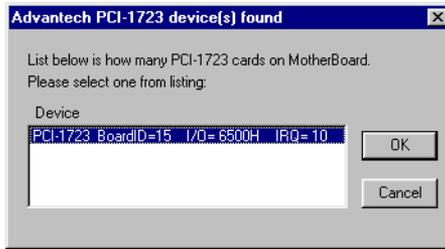
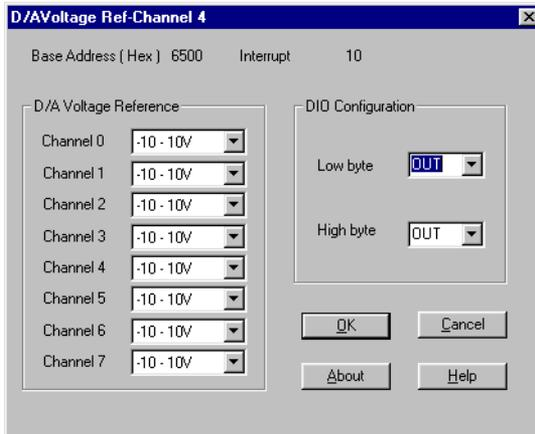

Figure 2.5: "Device(s) Found" Dialog Box
Figure 2.6: The Device Setting dialog box
3. Scroll down the List of Devices box to find the device that you wish to install, then click the Add... button to evoke the Device(s) found dialog box such as one shown in Fig. 2-5. The Device(s) found dialog box lists all the installed devices on your system. Select the device you want to configure from the list box and press the OK button. After you have clicked OK, you will see a Device Setting dialog box such as the one in Fig. 2-6.
4. On the Device Setting dialog box (Fig. 2-6), you can configure the voltage output range for the 8 D/A channels.